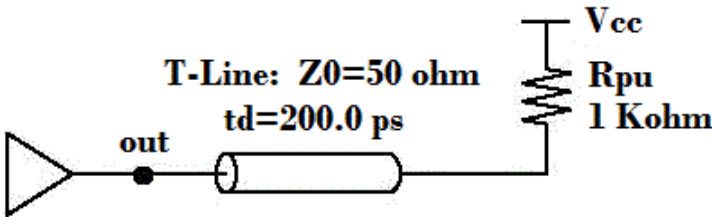

Figure 4 – Circuit used for Functional Check
The created IBIS model must be compared with the Original Buffer circuit. The signal outputs, in the same load conditions (figure 4), must be mached. These output comparisons are presented in TYP, MIN and MAX condition. This section can't be defined for Input and Terminator model type, because they are input-only model types.
*Circuit used for output comparison results is illustrated in figure 4.*